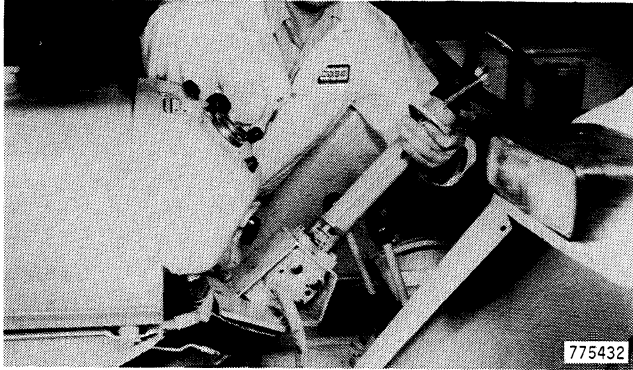

Figure 168
81. Install the steering control valve, Figure 168.